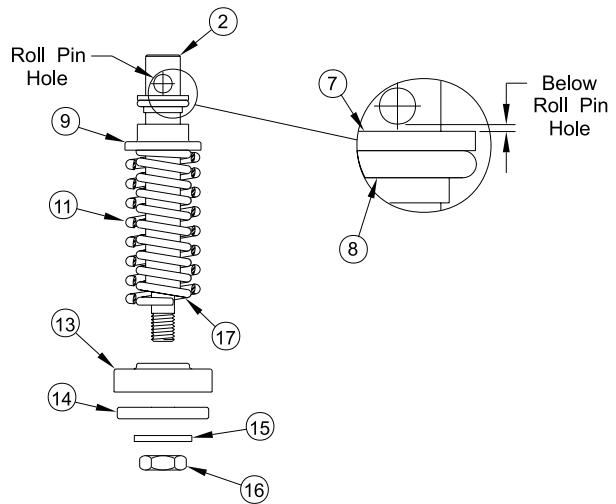

FIG. 2
REFER TO FIGURE 2 FOR THE FOLLOWING STEPS:
Step 1: Install O-ring (8) on the Seal Retainer (7). Lubricate Stem (2) with a good quality grease compatible with the service conditions. From the threaded end of Stem (2), slide this assembly onto Stem (2) with the shoulder side of Seal Retainer (7) facing toward the top of the Stem. See Figure 2 Seal Detail.
- Step 4: Lubricate O-ring (8) and the sealing bore of Bonnet (5) with a good quality grease compatible with the service conditions.
- Step 5: Install the complete Assembly of Figure 2 into Bonnet (5), rotating the Assembly as the O-ring (8) and the Seal Retainer (7) enter the sealing bore of the Bonnet.
- Step 6: Install O-ring (6) and Swivel Pad (4) over Stem (2) on top of Bonnet (5).
- Step 7: Place Handle Assembly (1) onto Stem (2), and Install Roll Pin (3).
- Step 8: Replace Bonnet Gasket (10) in top of Body (12). Install the Bonnet Assembly into Valve Body, and tighten hard against the metal Bonnet Gasket (10).